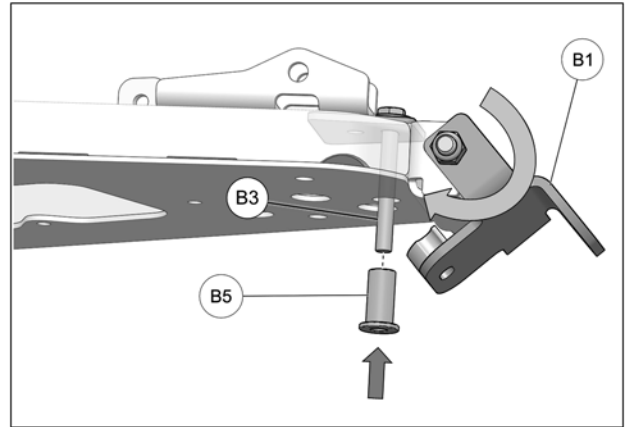

Fig. 7
7. Insert flange bushing (B5) in suspension arm over bolt (B3) as shown below. Rotate back end of anchor bracket (B1) upwards, over bolt (B3), also blocking flange bushing in place. See Fig. 7